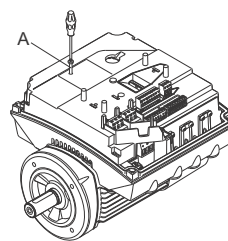

Fig. 58 Removing the securing screw
3. Remove the securing screw (fig. 58, A).
5. Fit and tighten the securing screw (fig. 58, A) to 1.3 Nm.